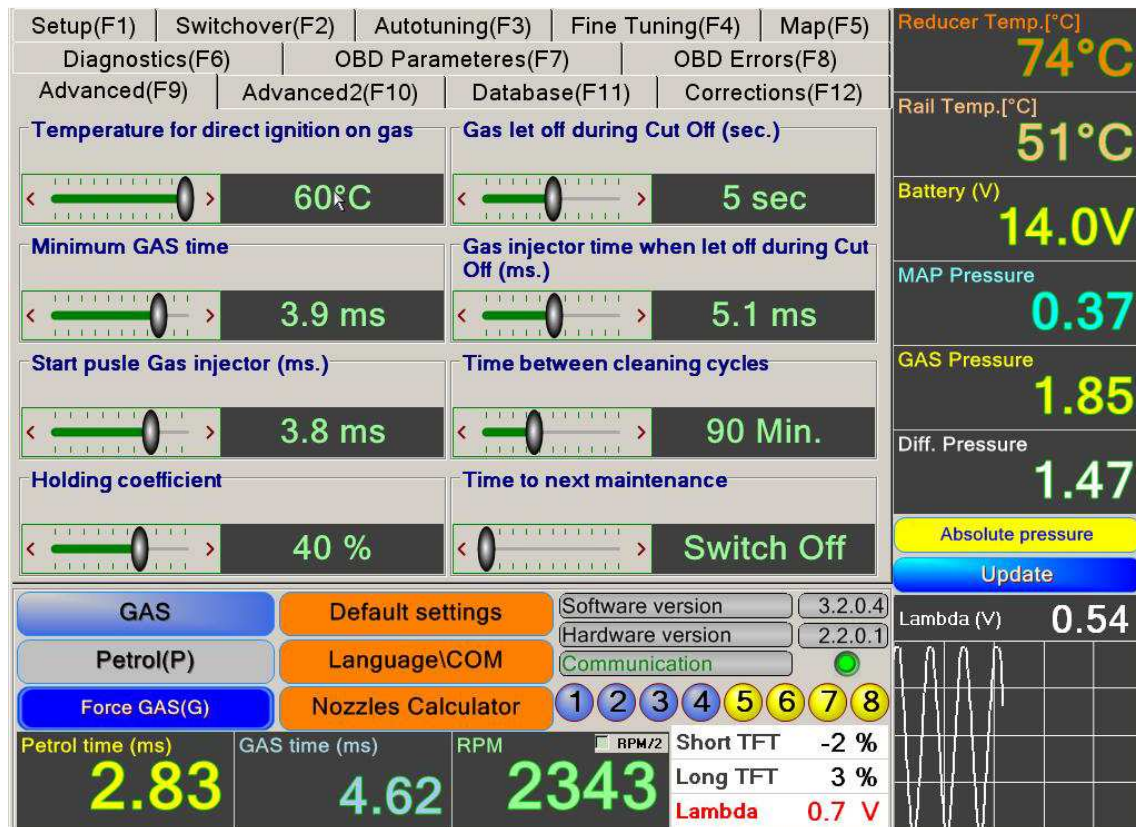
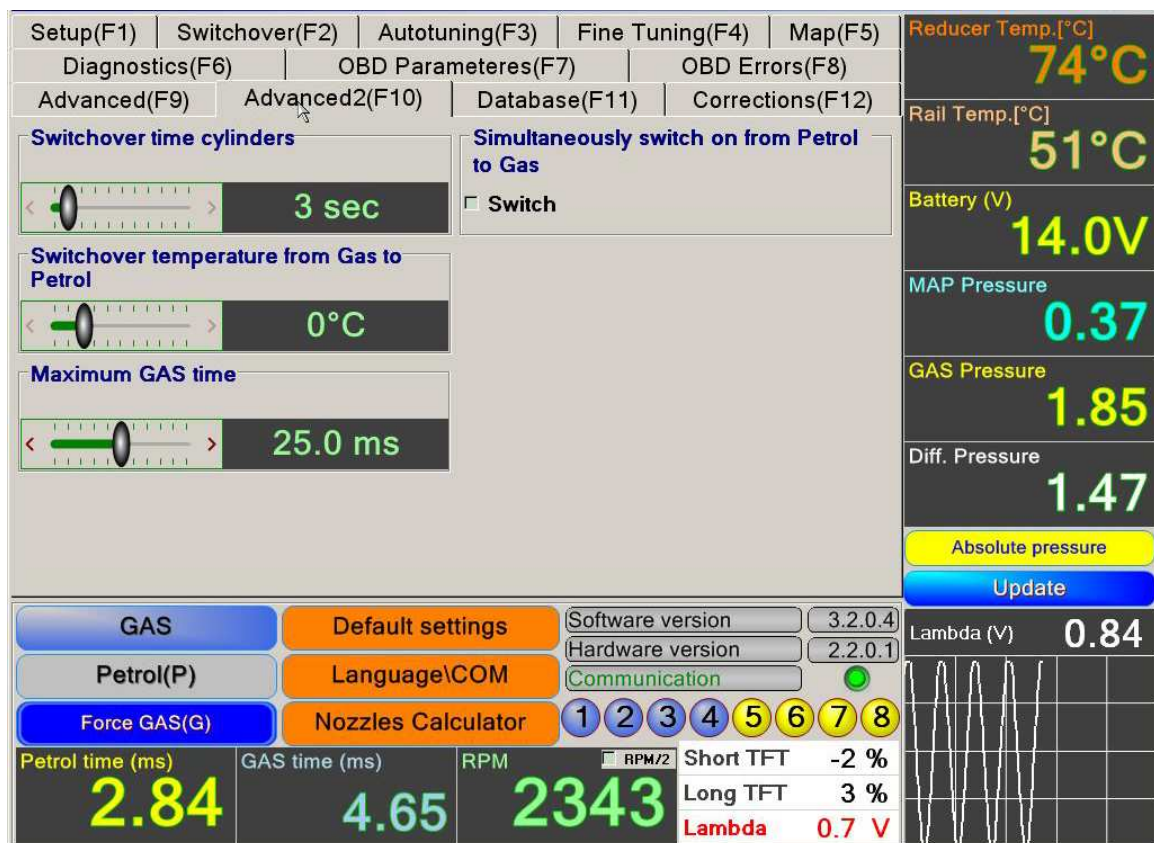

FIG.11
FIG.12
16. MENU "ADVANCED SETTINGS" (F9) - FIG.11 and FIG.12
Sliders in „Advanced setting 2” (F10) – FIG.12